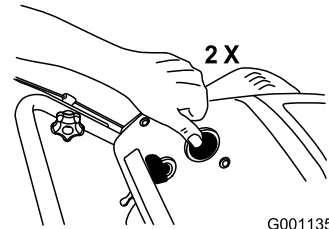

Figure 16
- Firmly push in the primer 2 times with your thumb, holding the primer in for a second before releasing it each time (Figure 16).